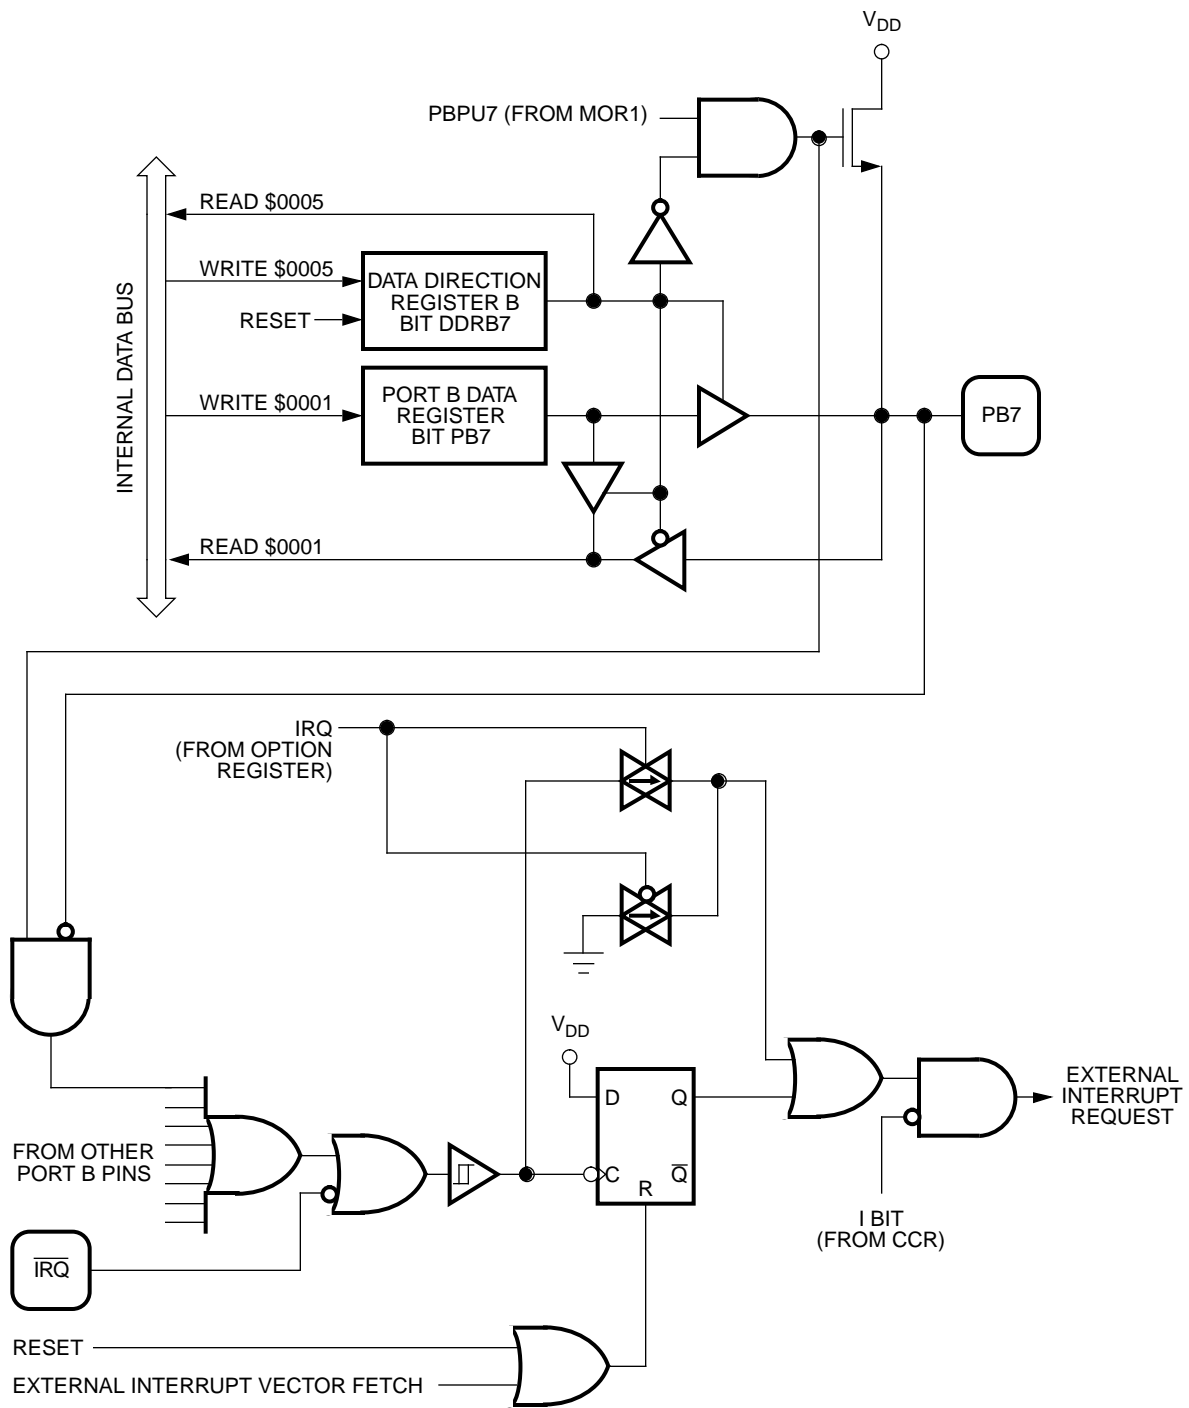

Figure A-4. Port B I/O Logic
- A subsequent port B external interrupt request can be latched only after the voltage level of the previous port B external interrupt signal returns to a logic one and then falls again to a logic zero. Figure A-4 shows the port B I/O logic.